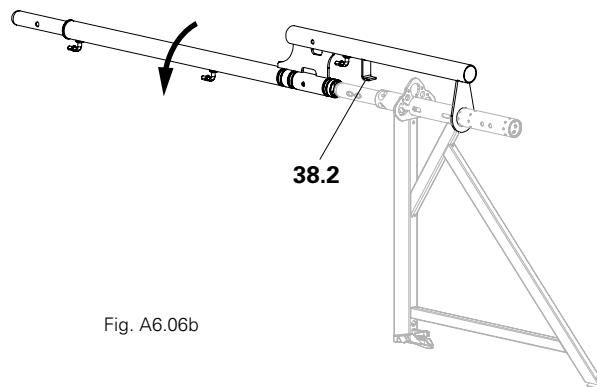
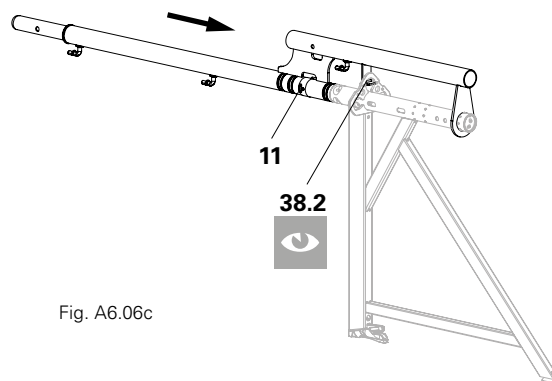

Fig. A6.06b
Fig. A6.06c
2. Push the Protection Panel Post EPS upwards on the Console Bracket ECM and push it onto the spigot of the Console Bracket ECM until the hook block (**38.2**) engages in the ledger-to-ledger coupler of the rosette. (Fig. A6.06b + Fig. A6.06c)
(Fig. A6.06c)